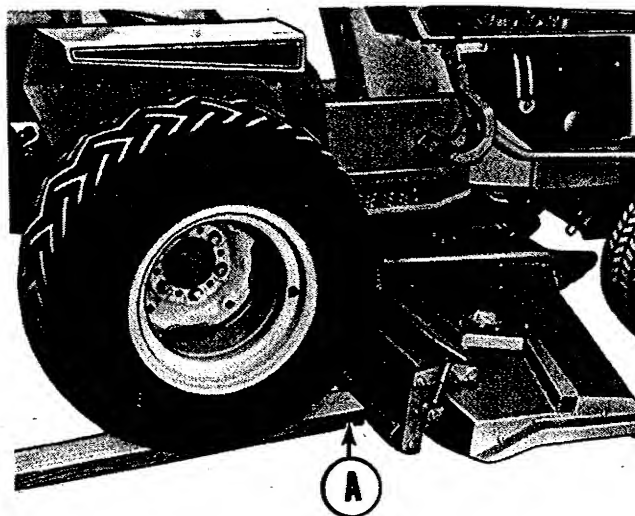

Figure 9. Mower prepared for backing over to remove from beneath tractor.
3. See figure 9. The mower may be slid out from under the tractor, after performing steps 4, 5, and 6 but it is much easier to back the front wheels over the mower. To do this a board (A) approximately 2" thick, at least 4" wide, and about 4' long should be lined up behind each rear wheel of the tractor and the tractor backed onto the boards until the front edge of the boards is even with the mower rollers.